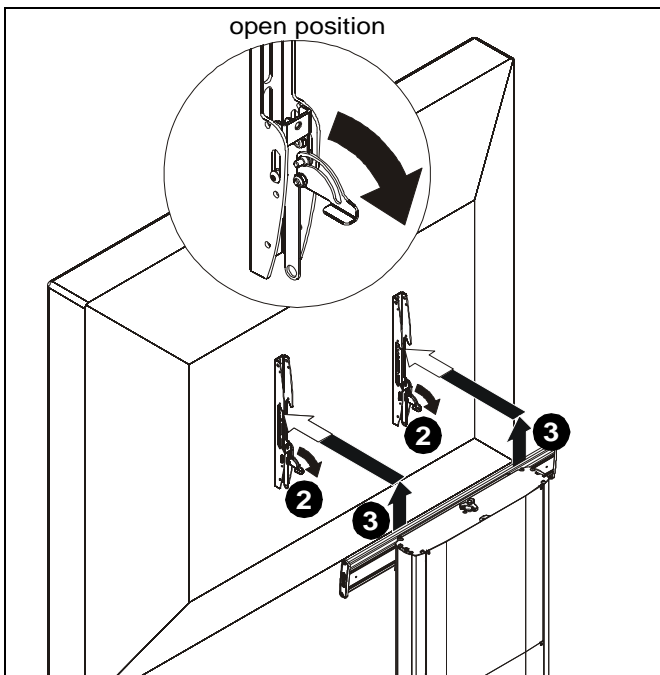

Figure 27
2. Position latches on interface uprights so that they are in the "open" position. (See Figure 27)
3. Carefully lift display from cart. (See Figure 27)